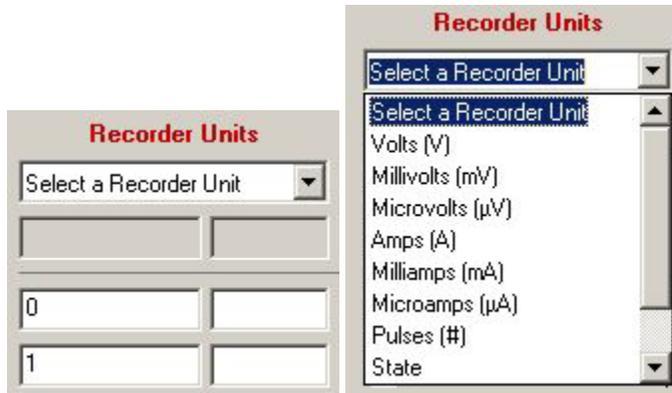
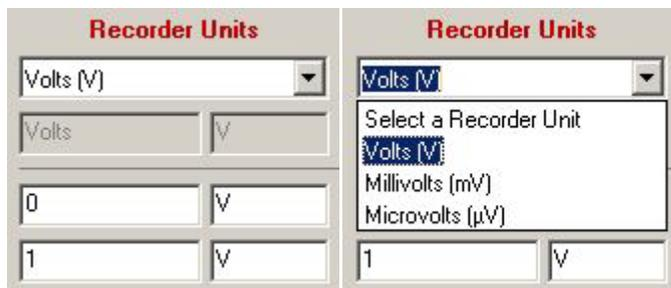

Fig.1
Fig.2
**Select a Recorder Unit** must be selected, then input the low/high reference values. When no specific unit is displayed the **Select a Recorder Unit** dropdown list (Fig. 1) will contain all available units, otherwise, it will only contain the unit that relates to the displayed unit (Fig. 2) as shown below.